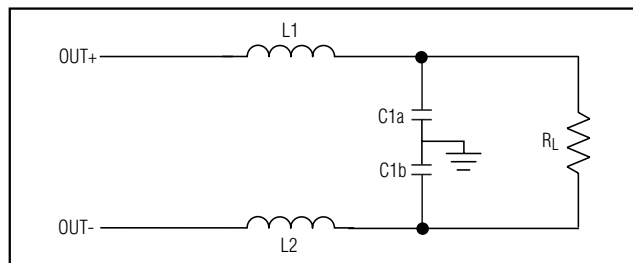
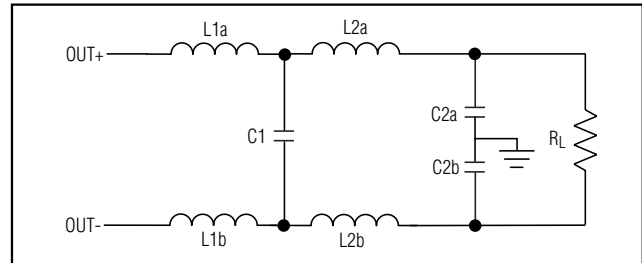

Figure 4b. Balanced 2-Pole Filter
Figure 4d. Balanced 4-Pole Filter
A Butterworth lowpass filter is chosen for its flat pass band and nice phase response, though other filter implementations may also be used. Three examples are presented below. The filter parameters for balanced 2-pole (Figure 4b) and 4-pole (Figure 4d) Butterworth filters are taken from *Electronic Filter Design Handbook* by Arthur B. Williams, McGraw Hill, Inc. These filter designs assume that the load is purely resistive and load impedance is constant over frequency. Calculation of filter component values should include the DC resistance of the inductors and take into account the worst-case load scenario:
• Balanced 2-Pole (Figure 4b):
• Balanced 4-Pole Filter (Figure 4d)